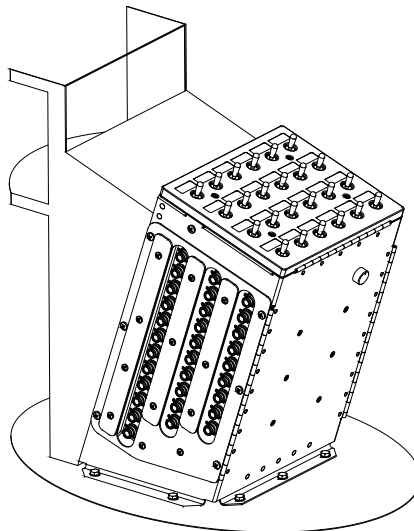

FIGURE 2
- 3.3. The P122 Console uses the same floor mounting points as the factory console. Bolt it into the floor temporarily using the hardware from the factory console (see Figure 2).